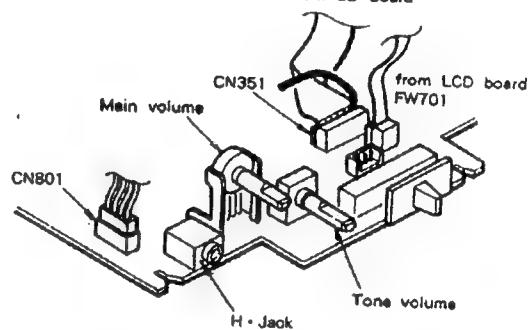
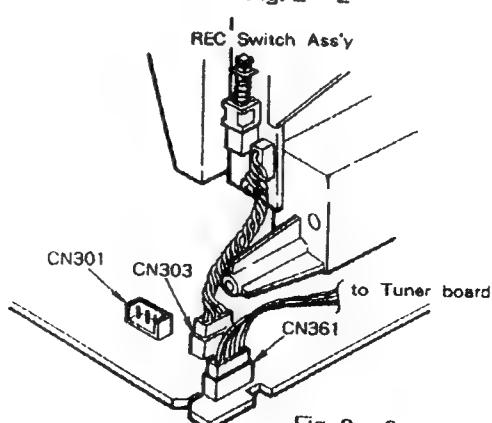

Fig. 2-1-2
Fig. 2-3
- 4) Remove the speaker wire connector (CN801) from the main board ass'y. (See Fig. 2-1-2)
◆ CD unit (See Fig. 2-1-2 and Fig. 2-3)
- 2) Remove the CD connector (CN351) from the main board ass'y. (See Fig. 2-1-2)